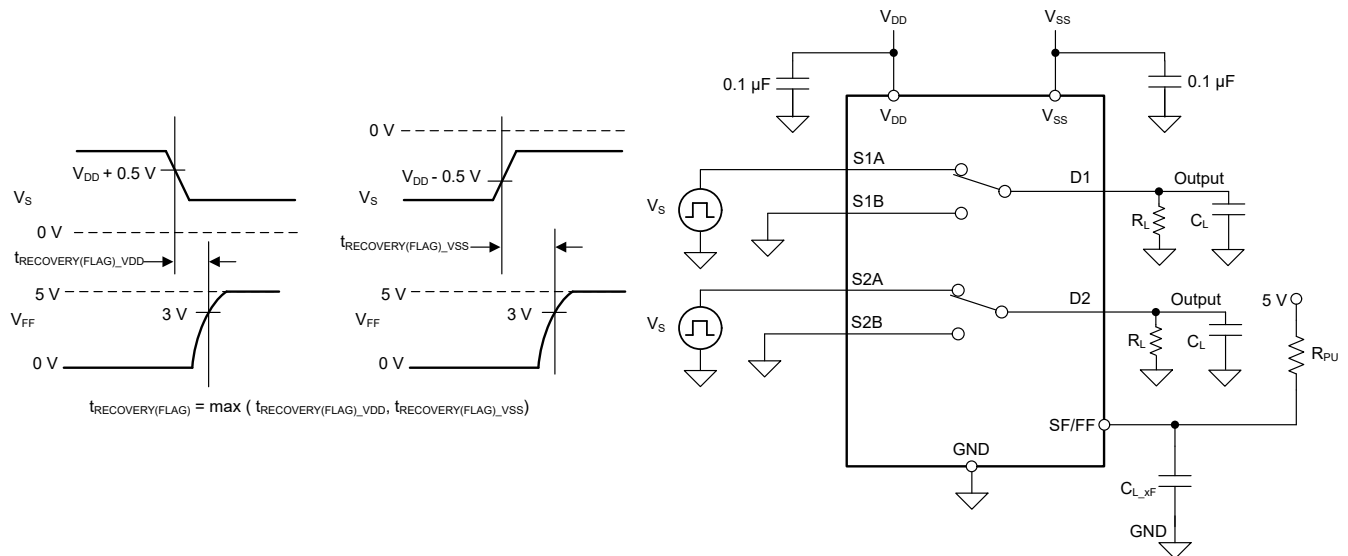

Figure 7-12. Fault Flag Recovery Time Measurement Setup
Fault flag recovery time ( $t_{RECOVERY(FLAG)}$ ) measures the delay between the source voltage falling from overvoltage condition to below fault supply voltage ( $V_{DD}$  or  $V_{SS}$ ) plus 0.5 V and the general fault flag (FF) pin to rise above 3 V with 5 V external pull-up. Figure 7-12 shows the setup used to measure  $t_{RECOVERY(FLAG)}$ .